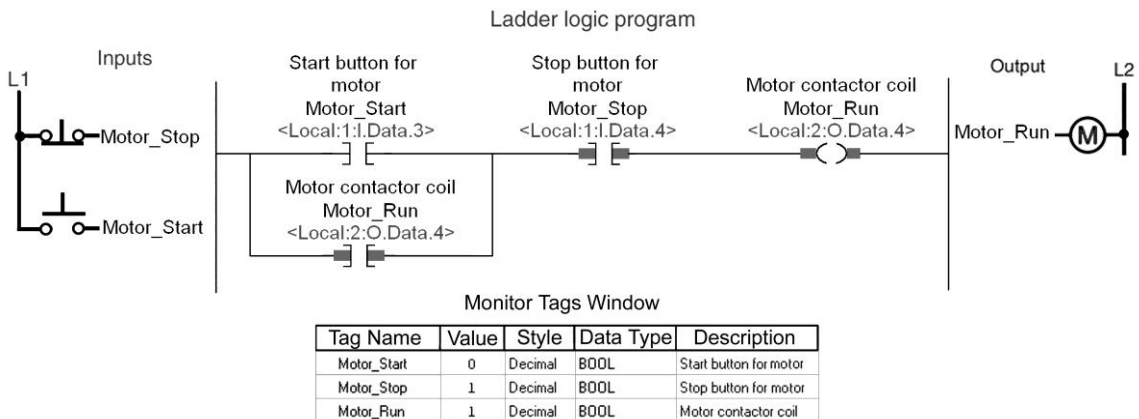

Figure 15-9 Start/Stop program for question 12.
12. For the motor start/stop program of Figure 15-9, what would the value of the tags be when the motor is not operating?